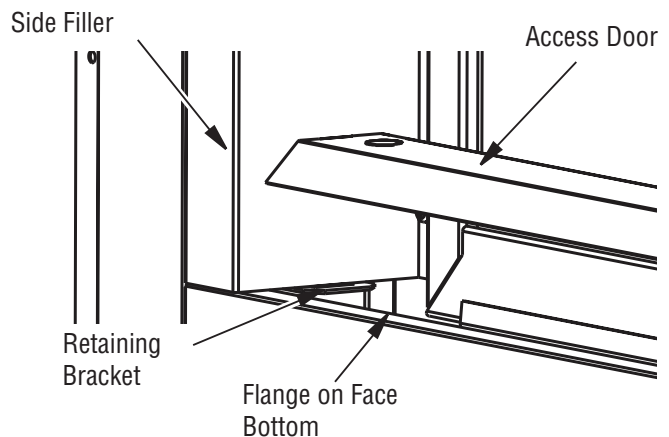

Figure 24 - Access Door for See-Thru Applications
1. Place access door into rectangular opening in front of the glass door with the slanted side facing forward. The slanted surface will slide underneath the flange of the bottom face. Insert tabs on side of access door into slots on retaining brackets (See Figure 24).
2. Remove access door (see Figure 24, page 14).